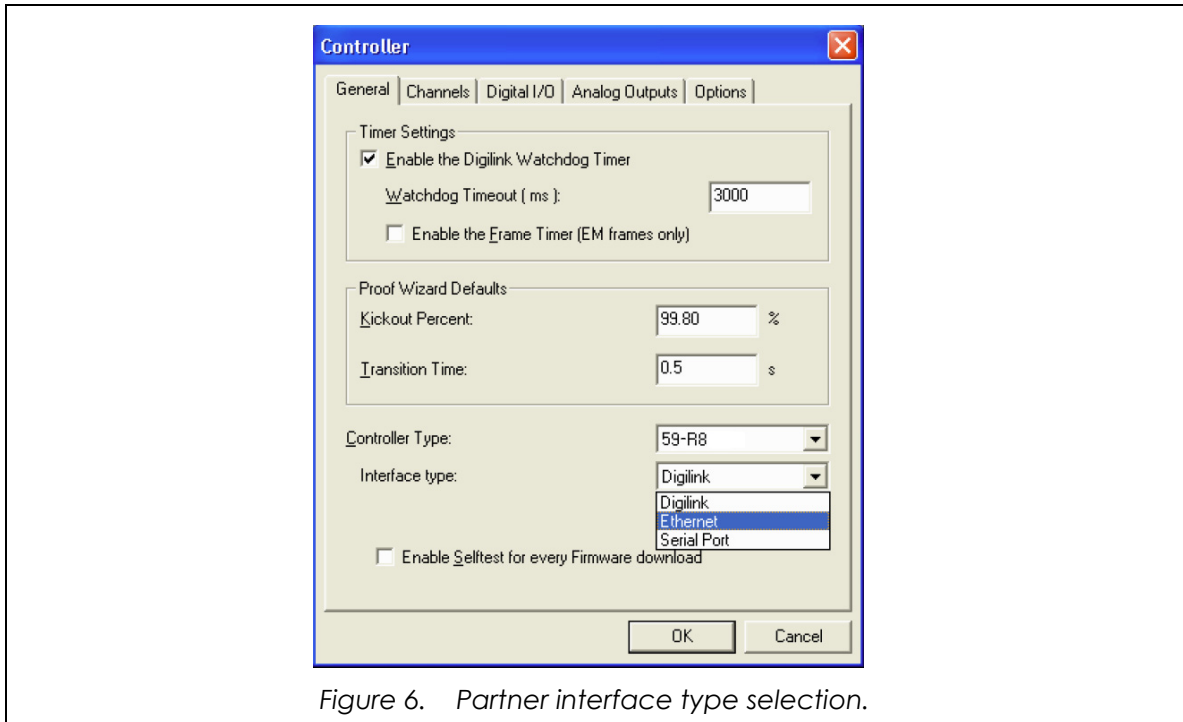

Figure 6. Partner interface type selection.
- vi. Select **Ethernet** as the Interface type (Figure 6); a third box appears for the MAC address.